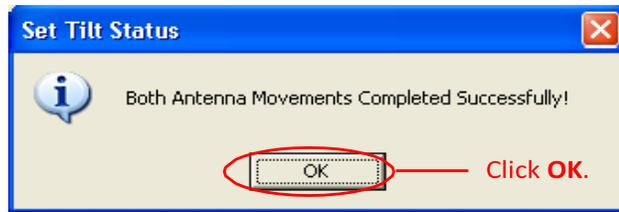

Figure 8-9. Movement Complete.
10. You will be notified when all antennas have successfully reached the new tilt angle. Click **OK** (Figure 8-9).